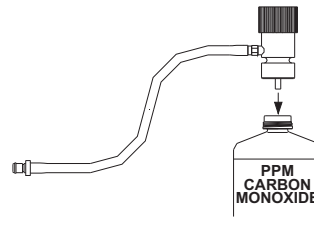

Figure 11
1. Install the regulator to the CO calibration gas cylinder (Figure 11).